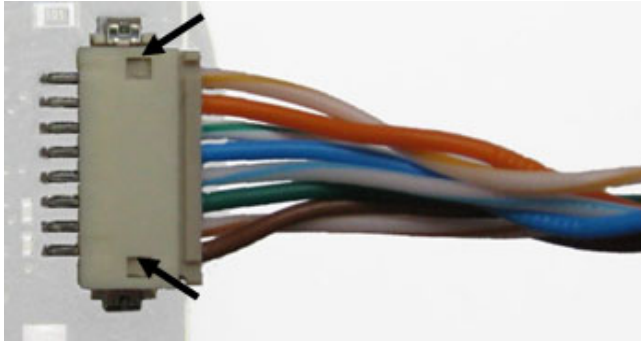

Figure13: phyCAM-S: Hirose type camera connector
- Plug the Hirose side into the matching connector of the camera module. The Hirose plug has two guide grooves on the top side. The socket is protected against misinsertion. Assure that the notches of the socket match to the detents of the plug (see *Figure13*).